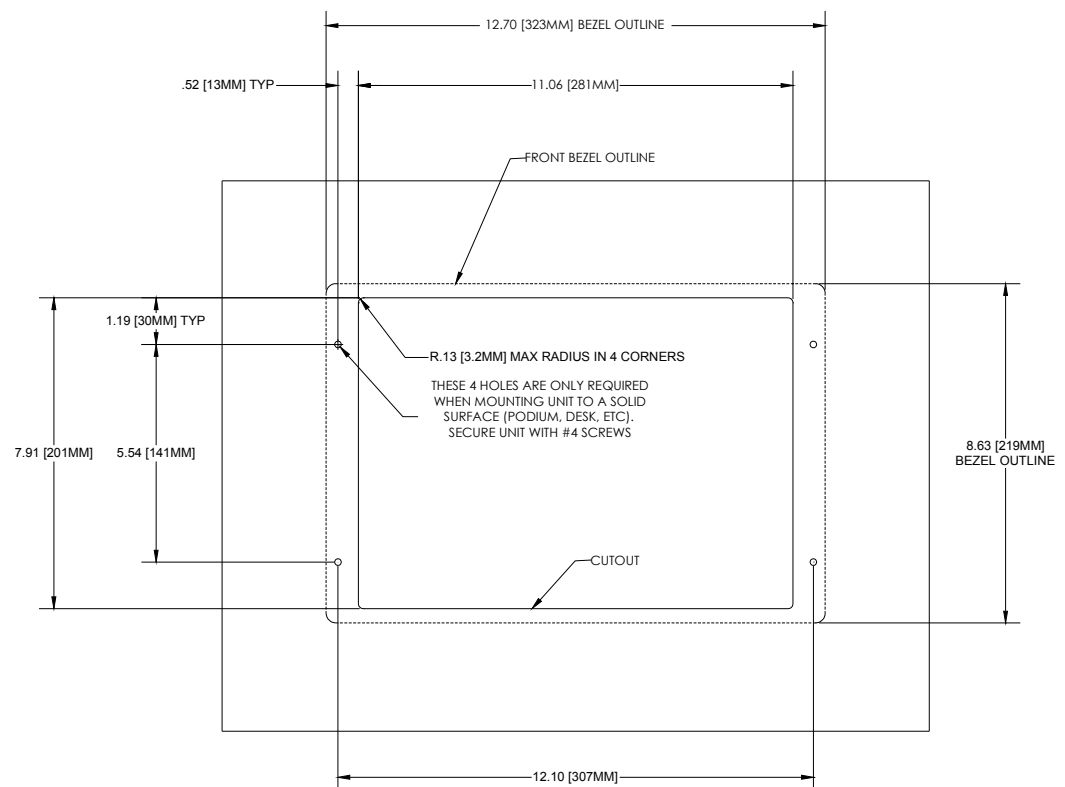

FIG. 12 MVP-WDS Wall Mount cutout dimensions using solid surface screws
- Refer to **SP-5965-01** for detailed installation dimensions (reproduced in FIG. 12).
1. Cut out the surface for the MVP-WDS docking station using the dimensions shown in FIG. 12.